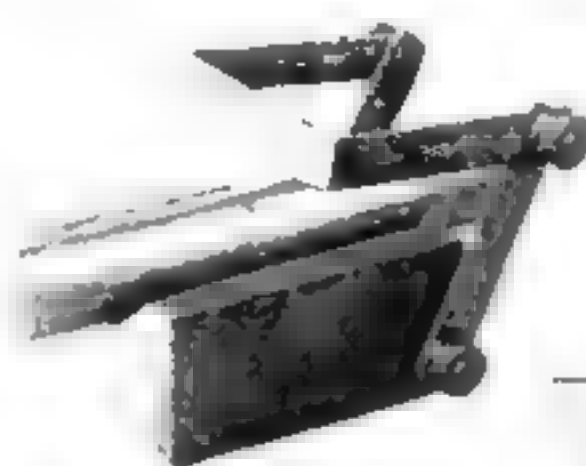

Fig. 2 V-block with centering attachment for setting work to be drilled
Where only a few pieces are needed, a die like that at B in Fig. 1 may be placed on the material by hand and used in a vise as at A in Fig. 2, or under a screw press as at B. For cutting very soft metals the die may be left soft, but for anything harder than copper it should be hardened and tempered to about a straw color. The pad under the material may be end-grain hardwood or thick hard fiber for any material softer than copper, and cold rolled brass or steel for harder materials requiring a hardened die.
**W**HEN drilling or redrilling holes in round stock, the work can be greatly simplified if an ordinary V-block is equipped with the centering attachment as illustrated in Fig. 2. With this arrangement it is possible to set punch marks or drilled holes exactly in line with the vertical axis of the drill.